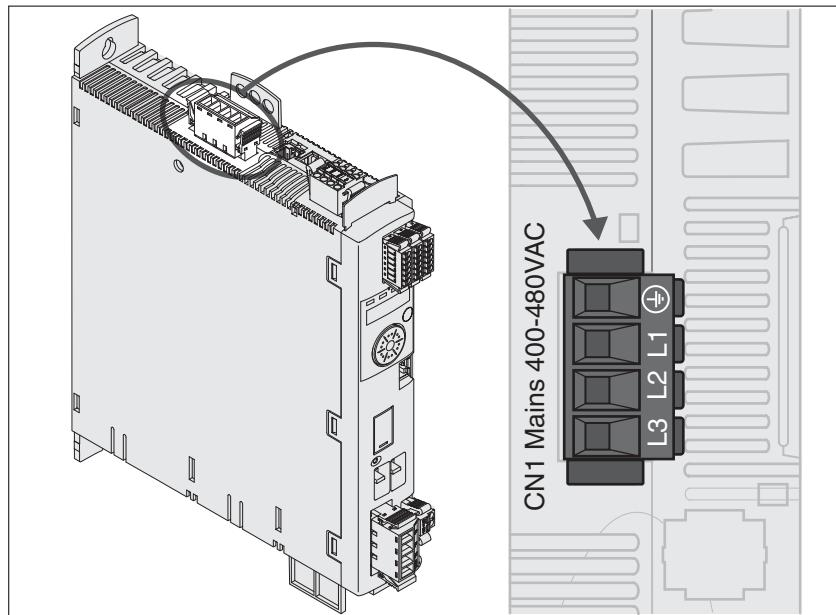

Figure 27: Wiring diagram power stage supply for three-phase device
- ▶ Connect the mains cable (Figure 27). Note the tightening torque specified for the terminal screws.